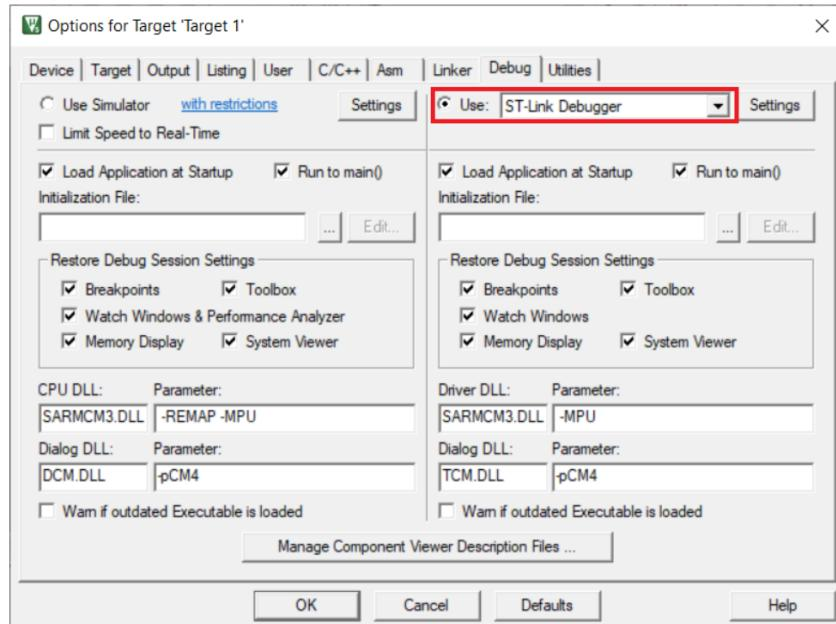

Figure 10
- Under the **Debug** tab, find the **Use** option at the top-right of the window. Select **ST-Link Debugger** from the drop-down menu (see Figure 10).